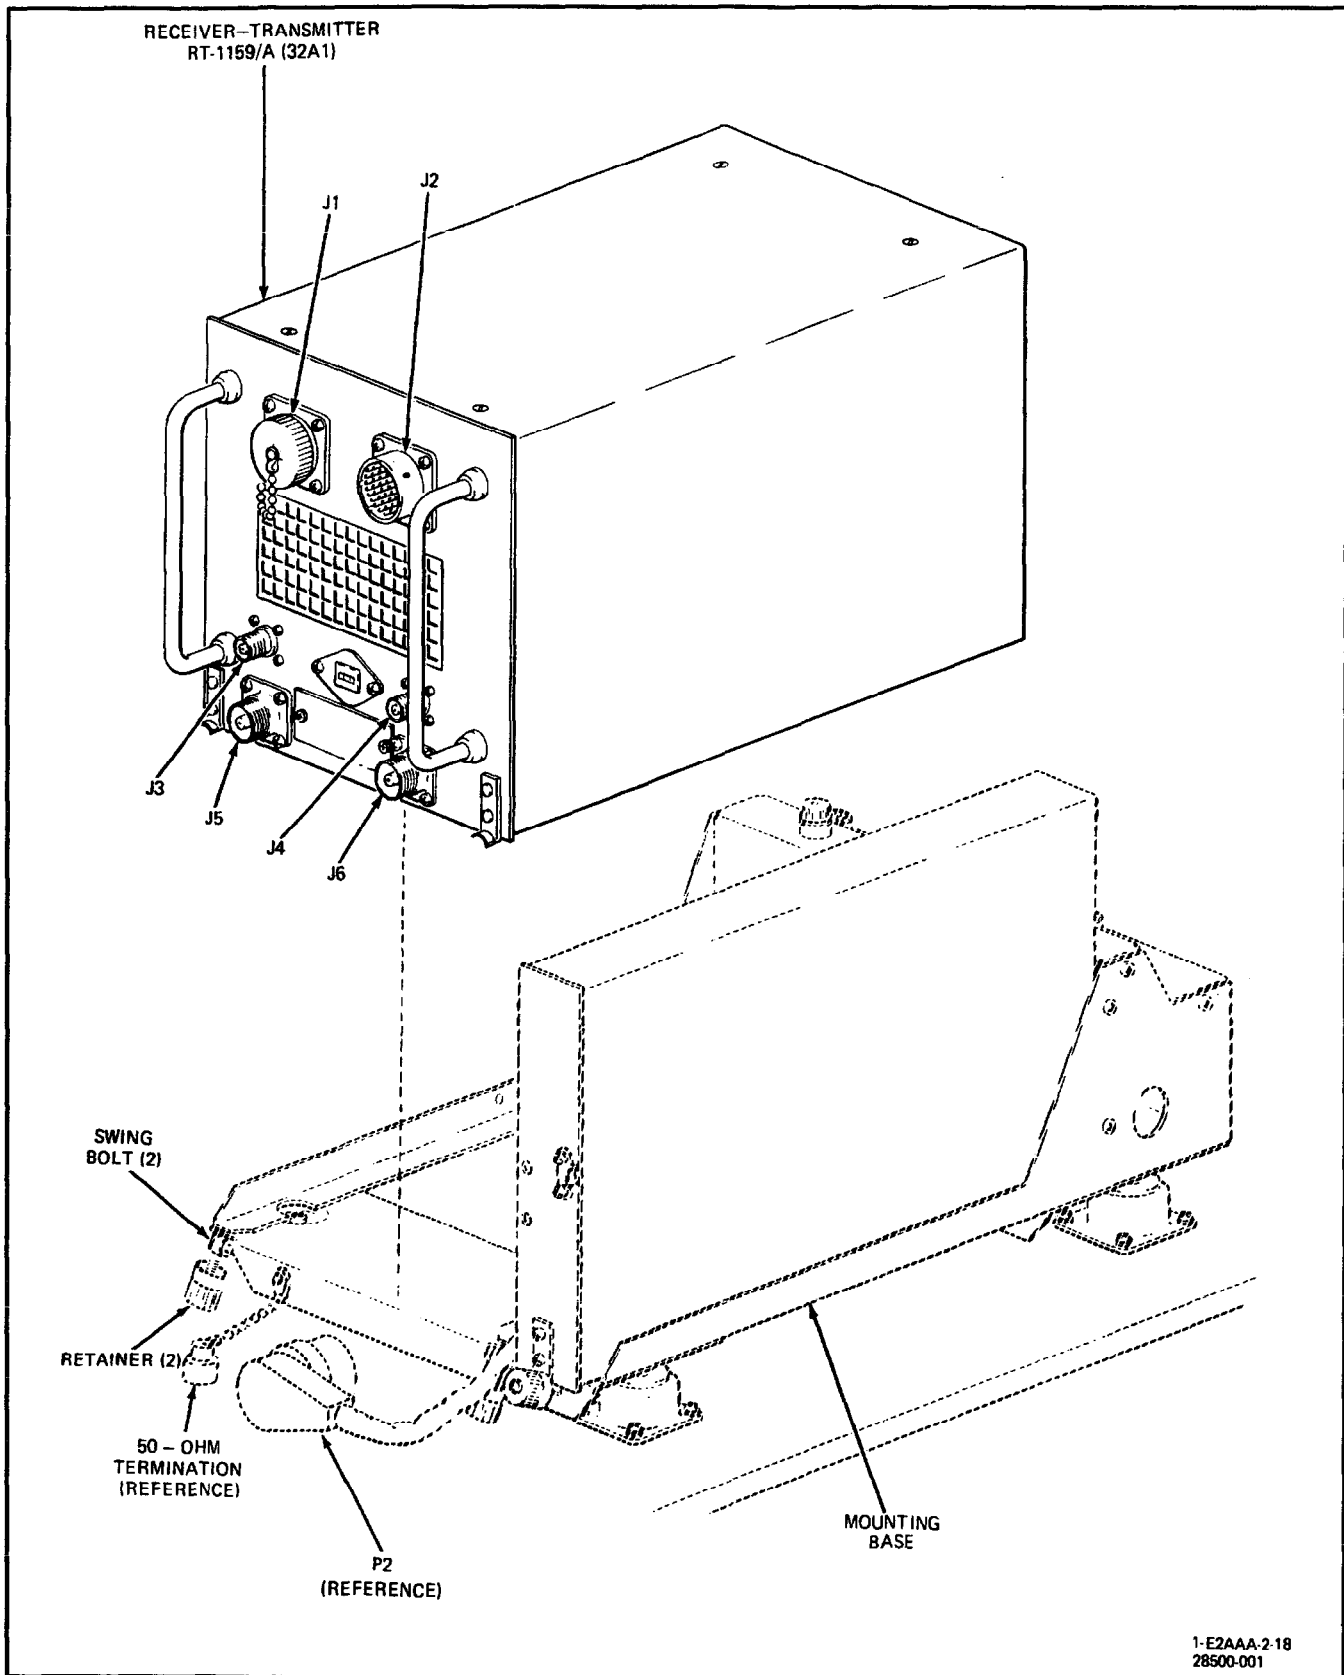

Figure 1. Removal and Installation of Receiver-Transmitter RT-1159/A
**3. REMOVAL. (Figure 1.)**
#### 4. INSTALLATION. (Figure 1.)